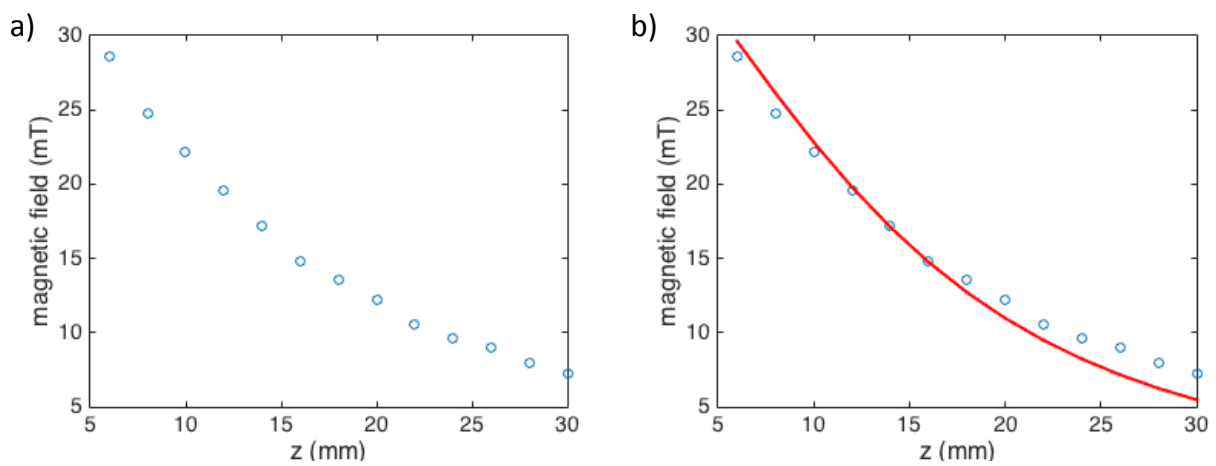

Figure 2.4: Nonlinear Least Square fitting of Sample Data.
We can use the MATLAB function `lsqcurvefit` to find a value for B_r . Figure 2.4 shows the measured data for the magnetic field and the fitted data according to the model, in this case with $B_r = 175.6$.
4. Plot the field vs. the distance in MATLAB. It should look similar to the Figure 2.4. Use the MATLAB function `lsqcurvefit` to fit a line to the measured values to estimate the magnet remanence B_r , as outlined in Equation 2.6 and illustrated in Fig. 2.4. Again, find the optimal B_r to fit your data, that minimizes the total error. Take into account that the hall sensor saturates at a certain field. This can lead to a flat curve close to the magnet. If that is the case with your data make sure to disregard the values in the saturated region.